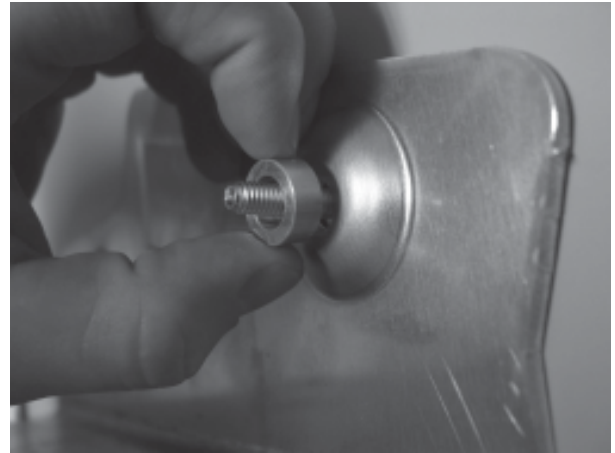

Figure 1
2. Fasten guard (A2) to rear flange on A-Arm using M6 bolts (B3) and spacers (B4). Do not tighten. **(Figure 1 & 2)**